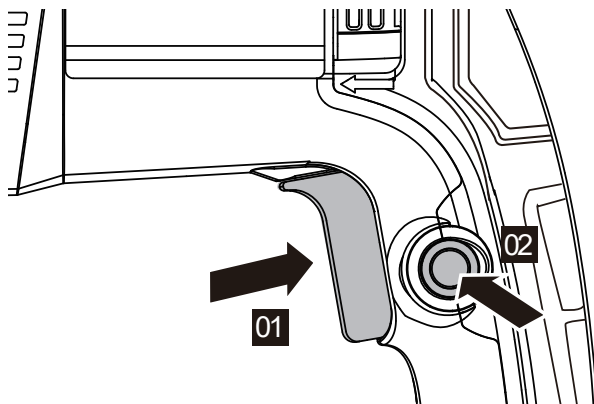

Figure 5
2. CONTINUOUS USE (SEE FIG. 5)